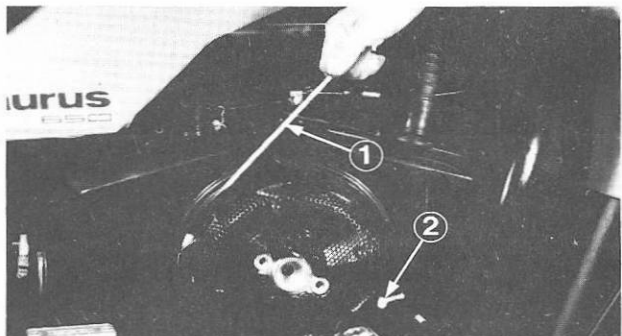

Fig. 18 (1) Starter Rope (2) Pulley Knotch
6. Place the knot from the end of the starter rope in the pulley knotch (Figure 18).